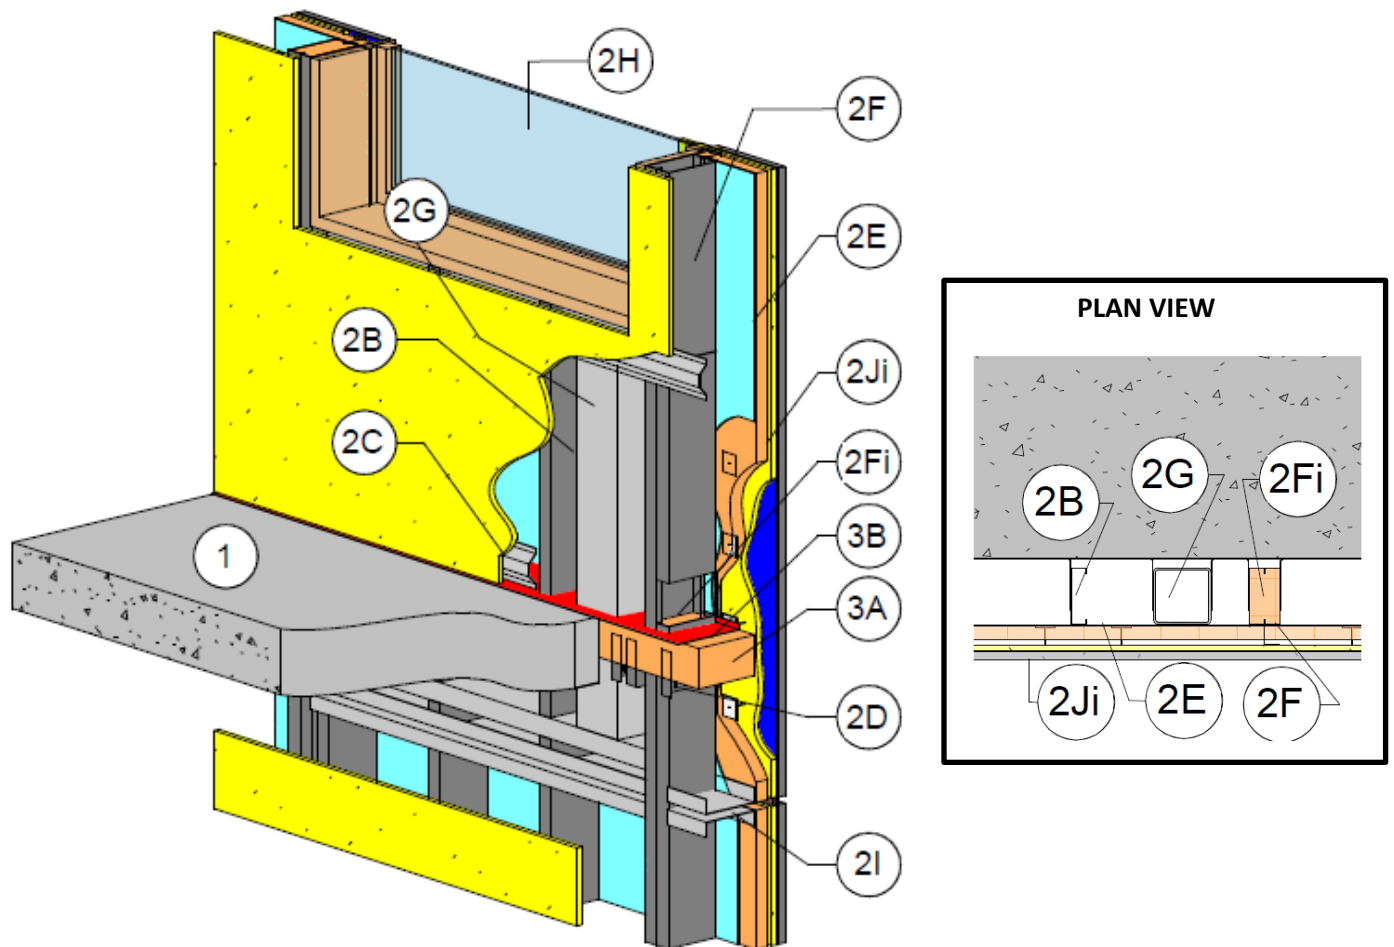
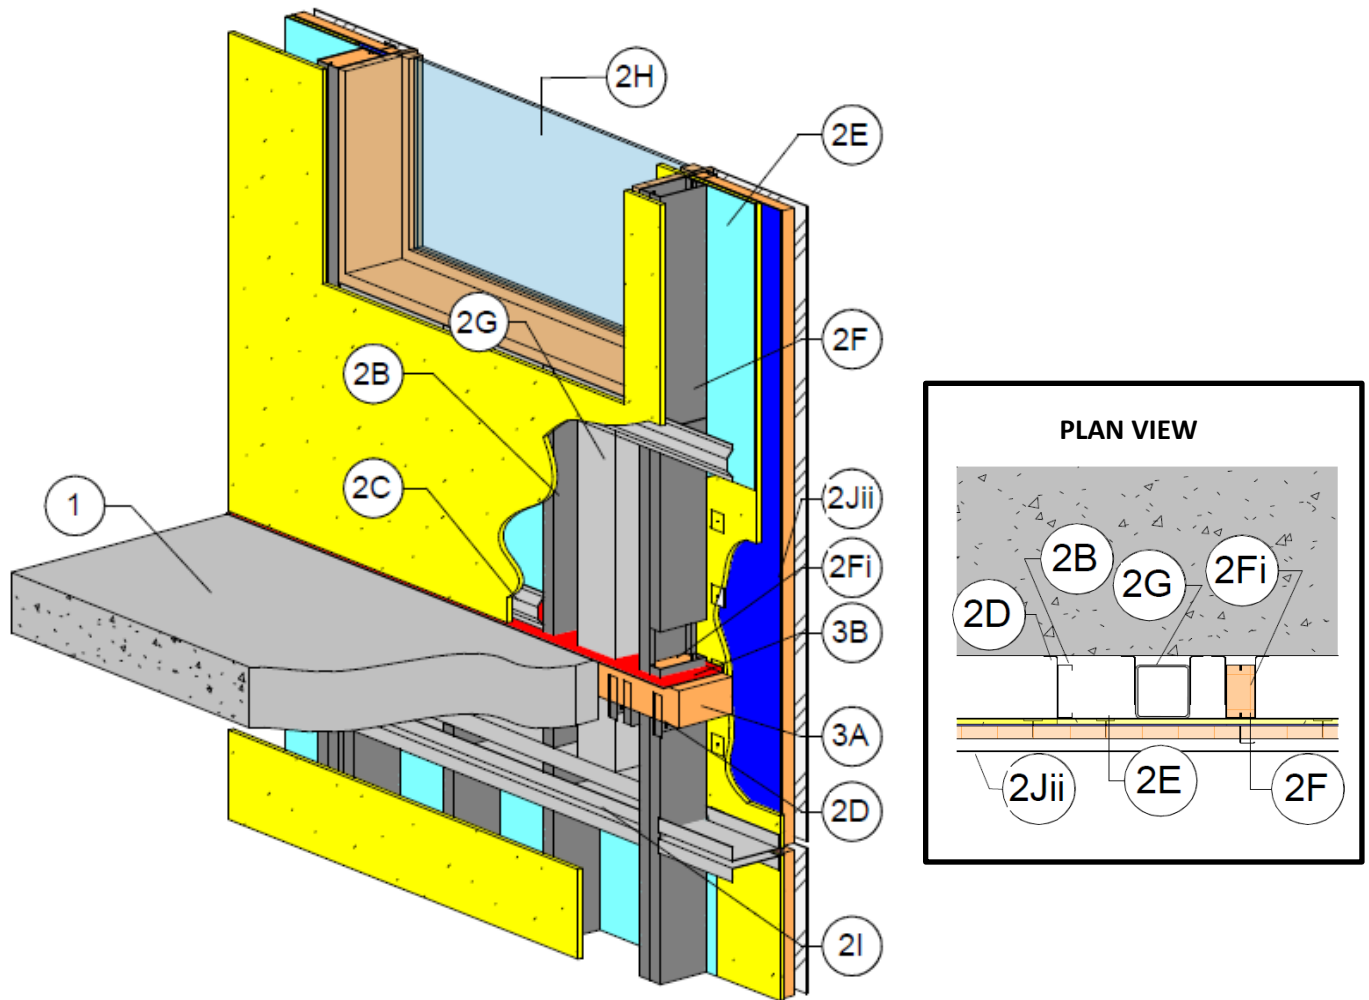

FIGURE 1. Option 1 (as detailed in Item 2Ji)
FIGURE 2. Option 2 (as detailed in Item 2Jii)
**Note: Both Fig. 1 and Fig. 2 assemblies are the same except as it pertains to the options as detailed in Item 2Ji).*
- G. TUBE STEEL FRAMING (Optional) – Use maximum 6 in. x 6 in. x 5/8 in. thick HSS installed within the stud cavity. Tube Steel Framing may be used to frame windows in lieu of king studs (Item 2F) as shown in Figures 1 and 2.
- H. VISION GLASS PANELS (Optional) – Glass panels shall be sized and installed to curtain wall system manufacturer's guidelines. Use a minimum 1/4 in. thick, clear, heat strengthened (HS) or tempered glass framed in aluminum mullions of minimum 0.15 in. thickness. Install the sill of the glass panel opening a minimum of 28-3/4 in. above the top of the concrete floor assembly (Item 1).